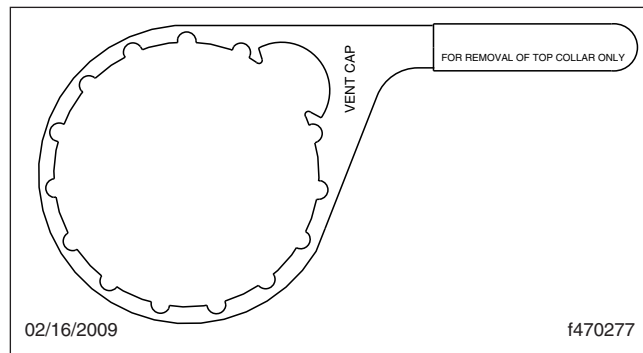

Fig. 3, DAVCO Collar Wrench
5. Using a DAVCO Collar Wrench, shown in **Fig. 3**, remove the clear cover and collar.
4. Using a DAVCO Collar Wrench, shown in Fig. 3, remove the clear cover and collar.
5. Using a DAVCO Collar Wrench, shown in Fig. 3, remove the clear cover and collar.